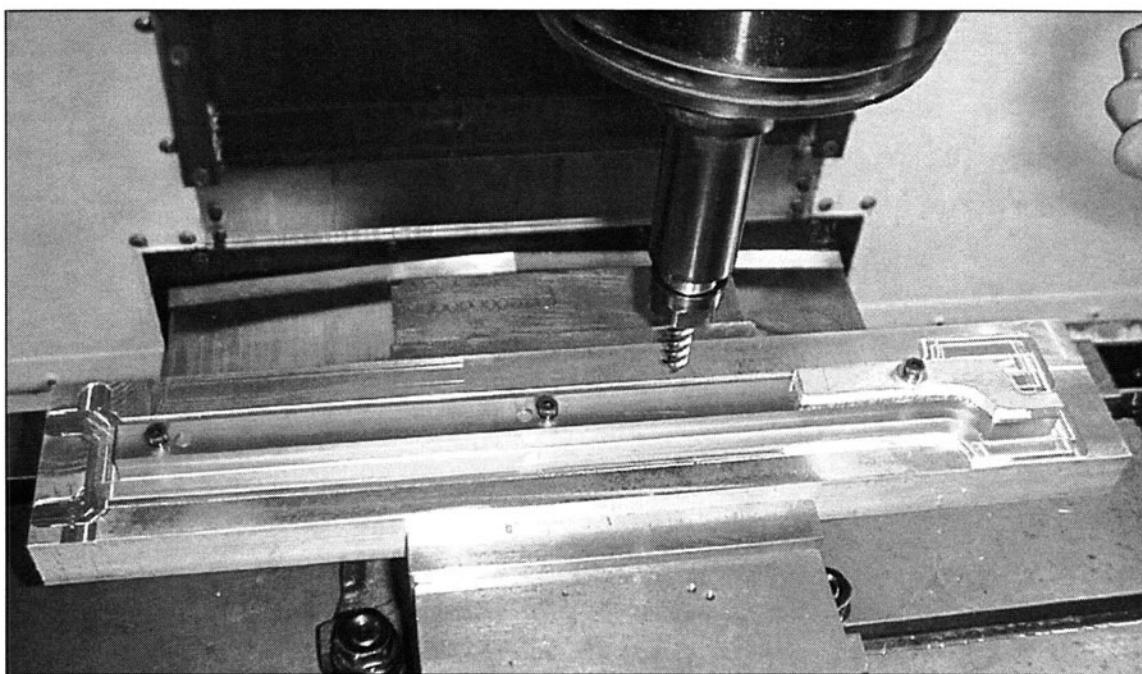

FIGURE 15-2 Clamping parts with cap screws through existing holes provides unobstructed access to parts for further machining.
15. Use thru holes in parts for clamping. (See Fig. 15-2)